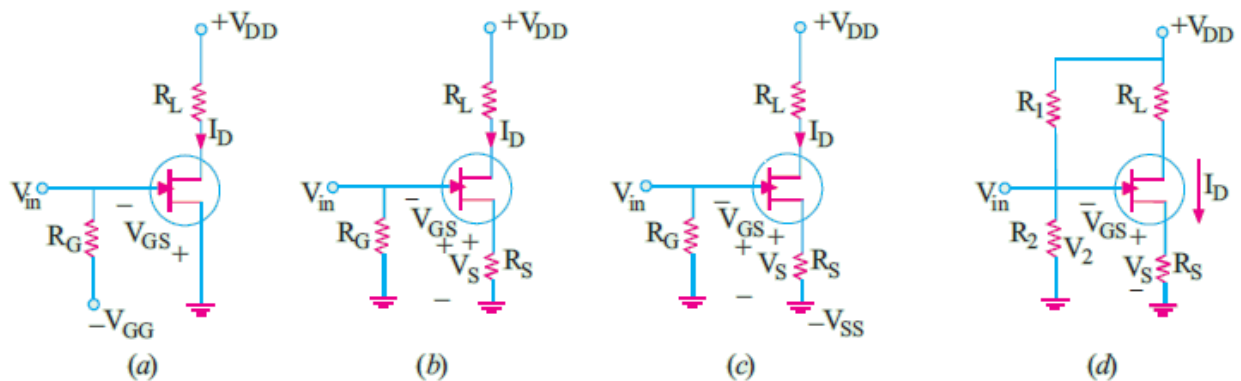

Fig.4
1. A separate power source V_{GG} as shown in Fig. 4 (a),
2. Some form of self-bias as shown in Fig. 4(b),
3. Source bias as in Fig. 4 (c),
4. Voltage divider bias as in Fig. 4 (d).